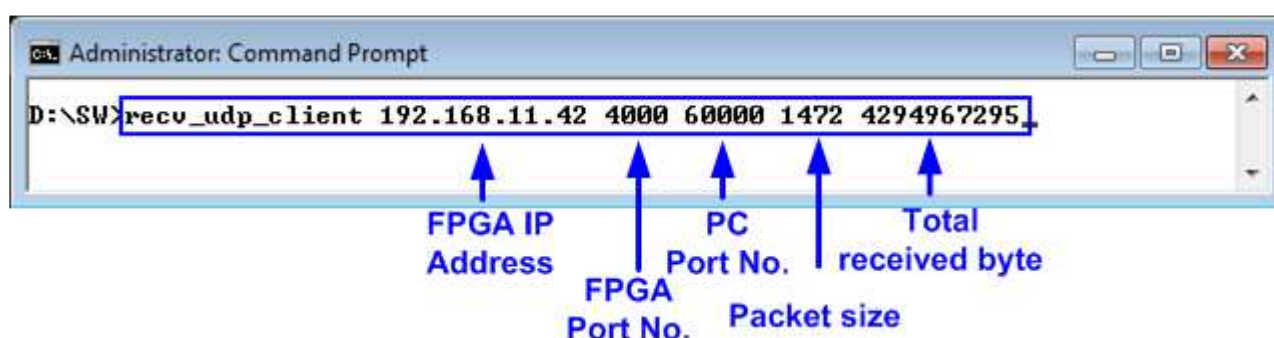

Figure 4-4 "recv_udp_client" command with non-jumbo frame
- Open "command prompt" on PC, and run "recv_udp_client" test application by using command as shown in Figure 4-4.